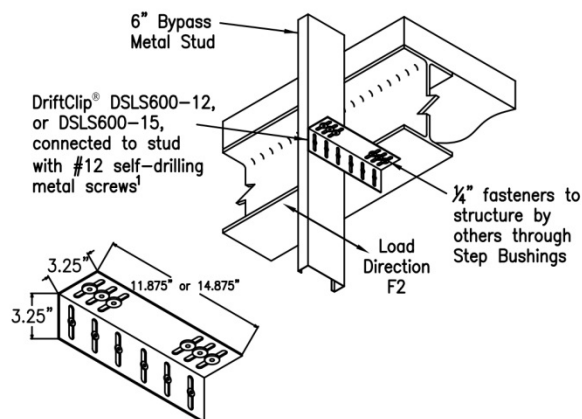

Figure 7 – DriftClip® DSLS600-12 and DSLS600-15
3.3.3 DriftClip® DSLS: DriftClip® DSLS600-12 and DSLS600-15 are L-shaped angles that connect 6 inch deep (152 mm) cold-formed steel framing of exterior curtain walls to a building's structural steel spandrel beam or structural concrete floor slab, while allowing a maximum of 2 inches (51 mm) of vertical and horizontal movement between curtain wall elements and the primary structure. The minimum base-metal thickness of the clips is 0.0966 inch (2.5 mm). The -12 and -15 following the model number DSLS600 represent the total length, in inches, of the connector. The two legs of the DriftClip DSLS600-12 and -15 connectors are equal in length, and each has two or three slots perpendicular to the heel of the angle, each $\frac{3}{8}$ inch (9.5 mm) wide by $2\frac{3}{8}$ inches (60 mm) long. The leg that is fastened to the curtain wall stud has bushings designed for #12 self-drilling/self-tapping steel screws installed in the centers of the slots. The other leg, which is fastened to the structure, has bushings designed for $\frac{1}{4}$ -inch diameter (6.4 mm) fasteners installed in the centers of the slot. Refer to Figure 7 for overall dimensions of each DriftClip DSLS connector and a typical installation detail.